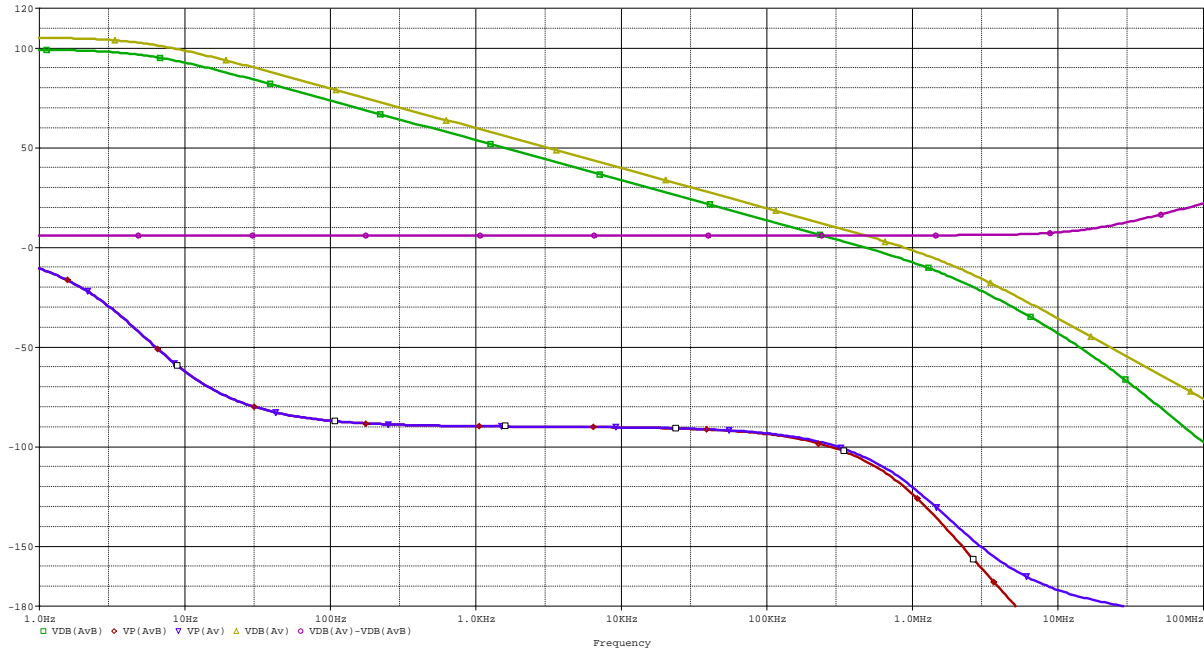
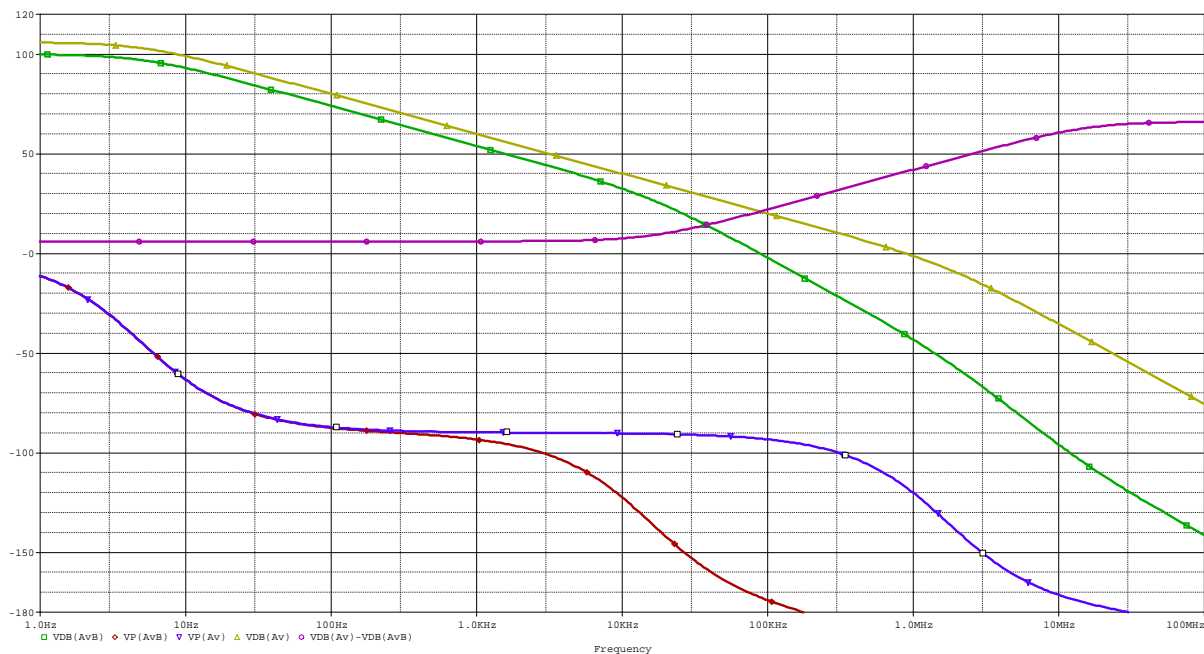
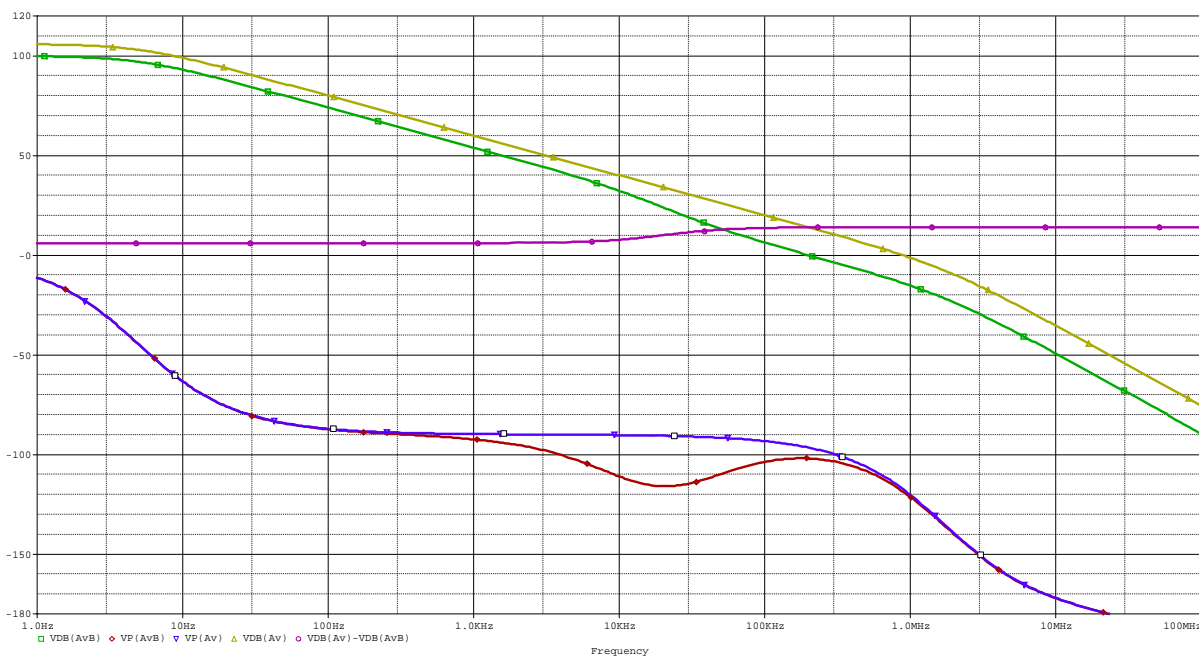

Figure 14. μA741 frequency response, gain of 2, $1\text{ k}\Omega$
Figure 15. μA741 frequency response, gain of 2, $1\text{ M}\Omega$
Figure 18. μ A741 frequency response, gain of 2, 1 M Ω with $C_f = 5$ pF
Using this model, we can now take a quick look at some apparently minor but in reality significant issues. First, let's simulate the circuit using $R_f = R_i = 1\text{ k}\Omega$, $C_i = 20\text{ pF}$, and leave $C_{load} = C_f = 0.01\text{ pF}$. Then let's change $R_f = R_i = 1\text{ M}\Omega$ leaving the other values unchanged. The results are shown in Figures 14 and 15 below.
Refer back to Figures 14 and 15 and note the amplitude responses. For the 1 k Ω resistors, the noise gain is flat out to the intersection with the open loop gain. With the 1 M Ω resistors, there is a significant peak in the noise gain¹⁹ (~20 dB for this case). Recall that the closed loop bandwidth is $f_{CL} = f_T\beta$. What is the closed loop bandwidth when there is a peak in the noise gain? By this strict definition, the bandwidth of the 1 M Ω amplifier is ~100 kHz, 5 times less than the amplifier built using the 1 k Ω resistors. This is true even though both amplifiers have the same noise gain at 500 kHz. This makes sense if you think in terms of “when does the amplifier stop being an amplifier?” The answer is that the loop gain is equal to or less than 0 dB. Think of it this way: when the loop gain is < 0 dB the amplifier can no longer drive the input differential voltage to zero (a key assumption from above). Therefore, at this point all semblance of ideal behavior is gone.
There is one additional effect that is worth illustrating before moving to a discussion of poles and zeros. Figure 18 repeats the AC simulation using $R_f = R_i = 1$ M Ω , $C_i = 20$ pF, but this time includes $C_f = 5$ pF. Compare this to Figure 15 and notice that we now have a phase margin of nearly 80°, ~2.5 times the bandwidth, and > 6 db reduction in peaking. This illustrates why Bob Pease²⁰ states that you always include a small feedback capacitor “unless you can prove you don’t need it”.
For example, in Figure 14 the noise gain has a slope of zero when it intersects the open loop gain, which has a slope of -20 dB/decade. Thus the difference is -20 dB/decade and the system is stable (as reflected by the large phase margin). However, in Figure 15 the noise gain has a slope nearly equal to $+20$ dB/decade at the intersection, so the difference is only slightly less than 0 dB/decade. While still stable, the amplifier has considerable ringing and a very low phase margin. Note that the locations of the poles in the open loop gain can be obtained from the data sheet for the Op Amp and the locations of the poles and zeros in the noise gain can be obtained by a simple circuit analysis (this is how I came up with Equations (28) and (29)). Thus, without using PSpice, asymptotic plots of the magnitude response can be drawn and, while not completely precise, they will reveal potential problems *without having to compute the phase response*. I like that. More importantly, it is pretty easy to remember Equations (28) and (29) such that, with a little experience, you can almost do the analysis in your head. Note that I have neglected to include the effect of output impedance and load capacitance. This adds another pole to the feedback factor (a zero in the noise gain – bad news!). This can be ignored if the load capacitance is low (but watch high frequency applications...Op Amp output impedance is not constant with frequency.